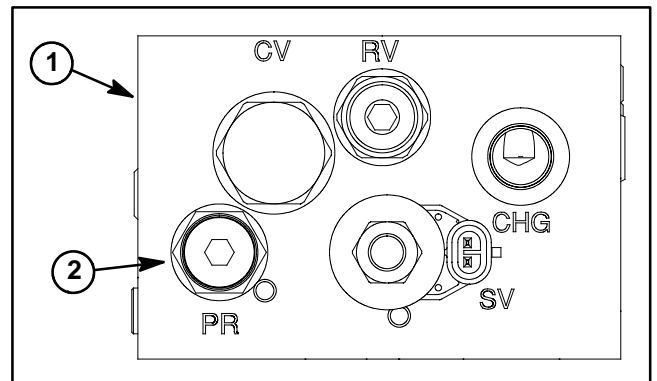

Figure 33
7. Pressure reducing valve (PR) is located on the front side of the 4WD manifold (Fig. 33). Adjustment of this valve can be performed as follows:
- C. Recheck reducing valve (PR) pressure setting and readjust as needed.